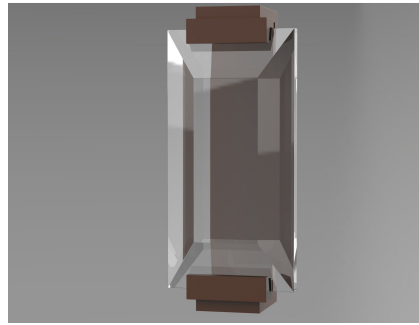

Figure 1
- Loosen screws (shown in red) from top and bottom of sconce. (Figure 1)